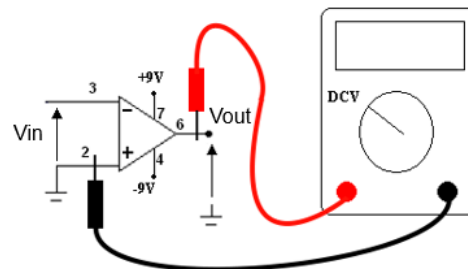

Figure 9 – Inverter zero comparator
- 2) Assemble the circuit in Figure 9 (inverter comparator) on breadboard and measure the voltage at the output for the two input values in Table 2.